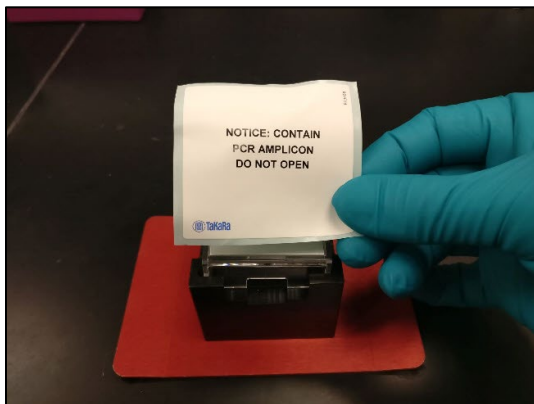

Figure 76. Securing the collection module with Collection Film.
5. Seal the chip and the top of the collection module with a supplied Collection Film (Figure 76).